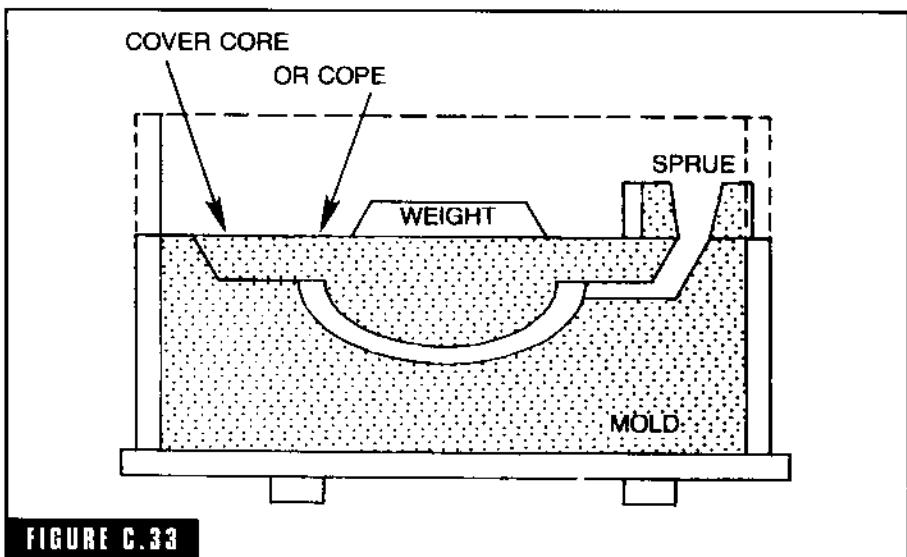

FIGURE C.33
**cover core** A core that essentially covers the entire mold cavity with the exception of the gate entrance and is held down by the cope and in place by its print (Fig. C-33). In many cases the cope can be elimi-